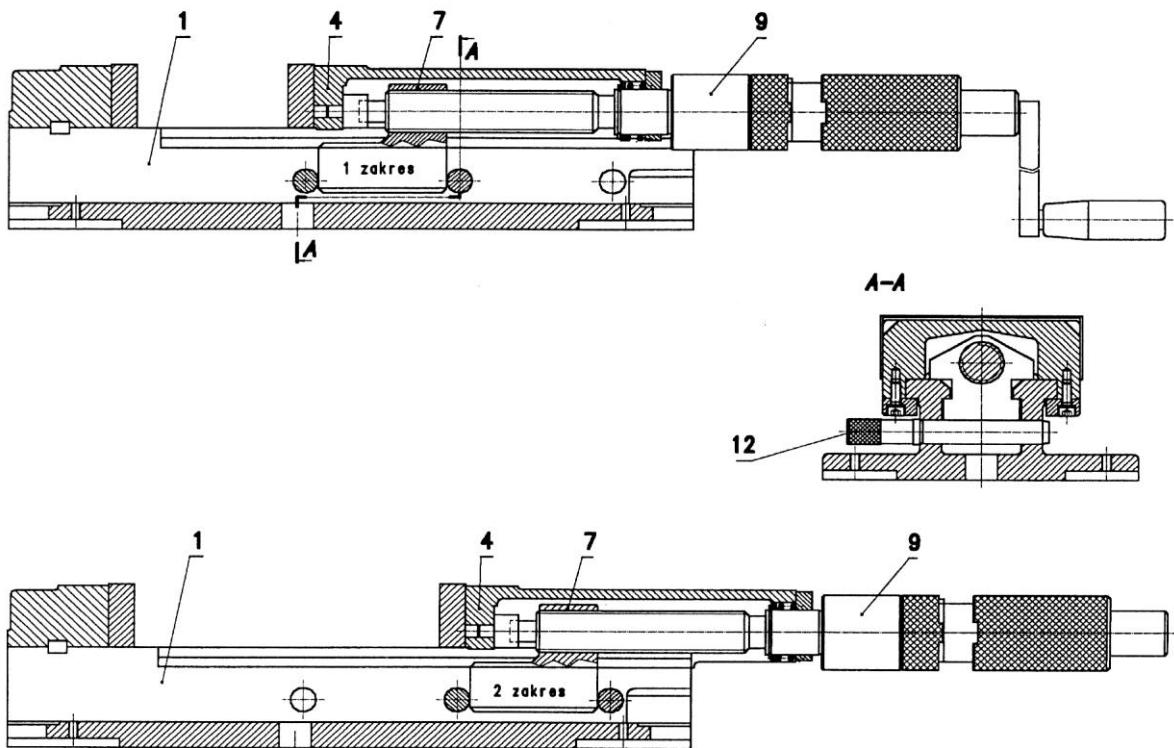

Fig. 2 Change of vice clamping range.
The moveable jaw 4 runs steplessly in body guides 1 driven by the lead screw 9 within two clamping ranges (Fig. 2).
The change of clamping range is realised as follows: remove two locking bolts 12 and reposition the holder in relation to the body from the position 1 to the position 2 or inversely, depending on need (see fig. 2) and lock with locking bolts 12.
- insert locking bolts 12 into openings in vice body (fig. 2).